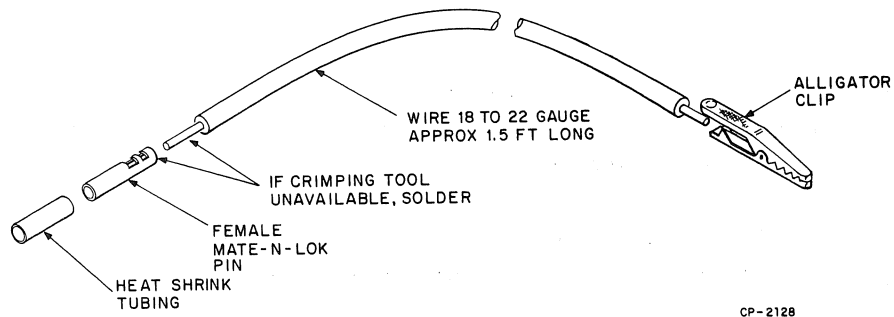

Figure 5-62 Jumper Wires – 2 Required
- 1. Jumper wires (Figure 5-62) (Two required).
3. Use jumpers (Figure 5-62) to connect motor leads to the 5-volt supply. To prevent blowing the 5-volt fuse (F6, 6 Amps, fast-blow), disconnect the red 5-volt supply wires from the Jones strip just beneath the vacuum motor assembly and clip one of the jumper wires to it. Clip the other jumper wire to the ground lead. Disconnect the 15-volt supply wires also, and push them out of the way.